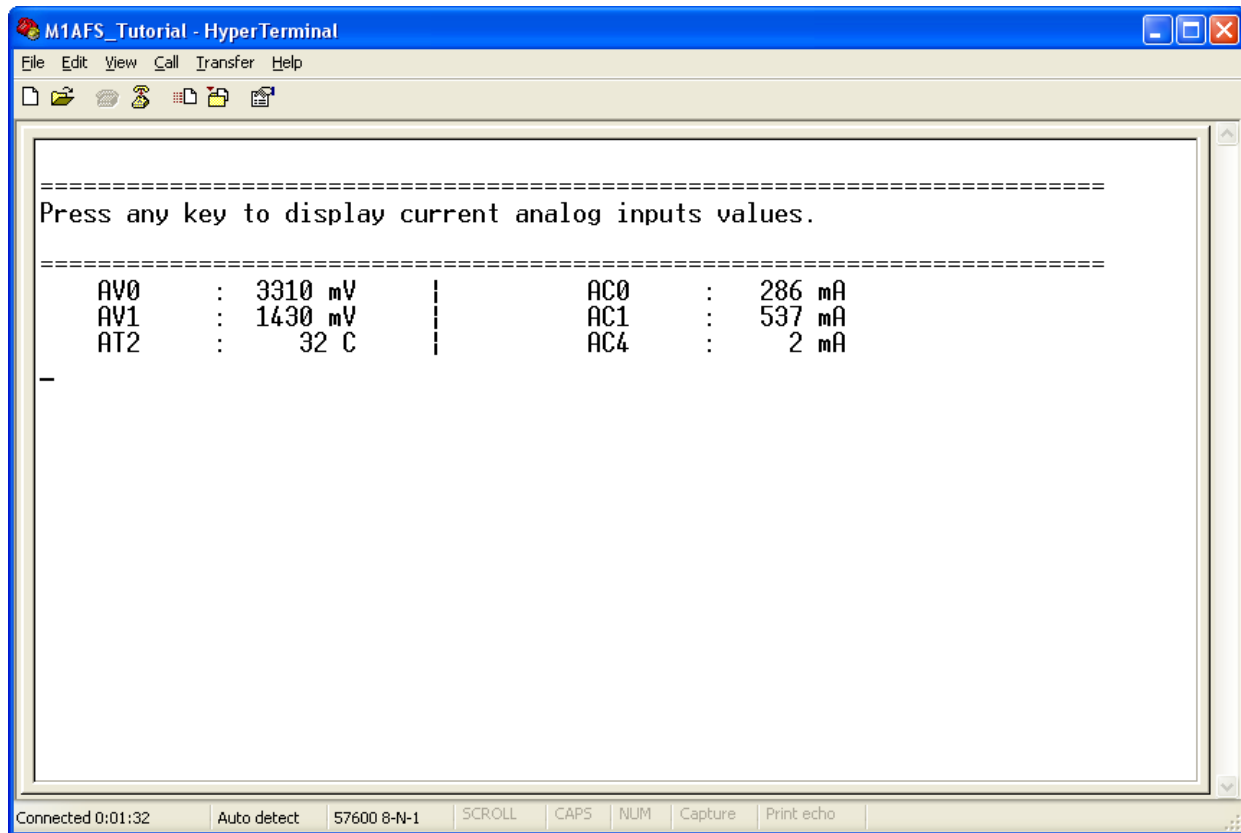

Figure 5-8 • HyperTerminal Display
8. Press any key. You should see something like the window shown in Figure 5-8.